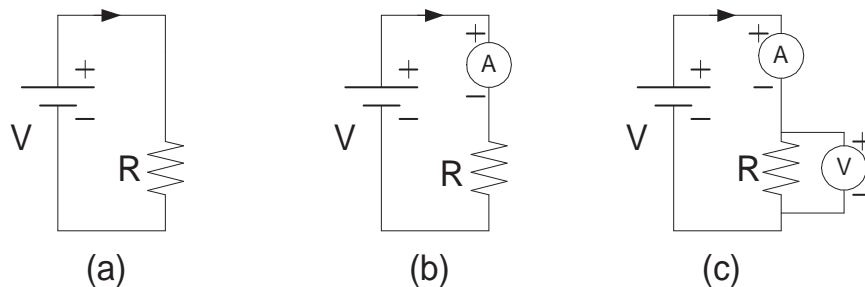

Figure 4.3: Simple circuit showing how to connect a multimeter as an ammeter and a voltmeter.
Figure 4.3(a) is a simple circuit with a power supply and a resistor. Suppose that we want to measure the current through the resistor, and the potential difference (voltage drop) across it. We must determine how to place the meters in a circuit when we want to measure either current or voltage.
- Figure 4.3(b) shows where to place an ammeter to measure the current through the resistor. Note that to measure the current through the wire, we place the ammeter so that this current must pass (no choice) through the ammeter — hence the ammeter and the resistor are in series in the circuit. In order to measure the current in an existing circuit, a wire must be cut and an ammeter inserted (bridging the cut section of wire).
- Figure 4.3(c) shows where to place the multimeter in voltage measuring mode (voltmeter) to measure the potential difference (voltage) across the resistor. Note that we are measuring the difference of potential between two points — one on either side of the resistor. The voltmeter and resistor are parallel to each other in the circuit. In order to measure the voltage difference in an existing circuit, simply jump the two locations with the voltmeter.